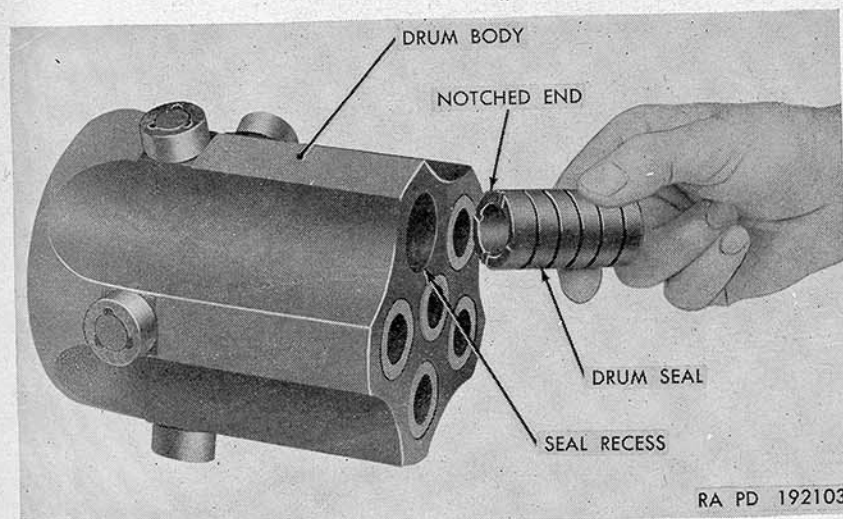

Figure 63. Installation of drum seals.
a. Insert drum seals (fig. 63) in the recesses in the drum body with the notched end in.